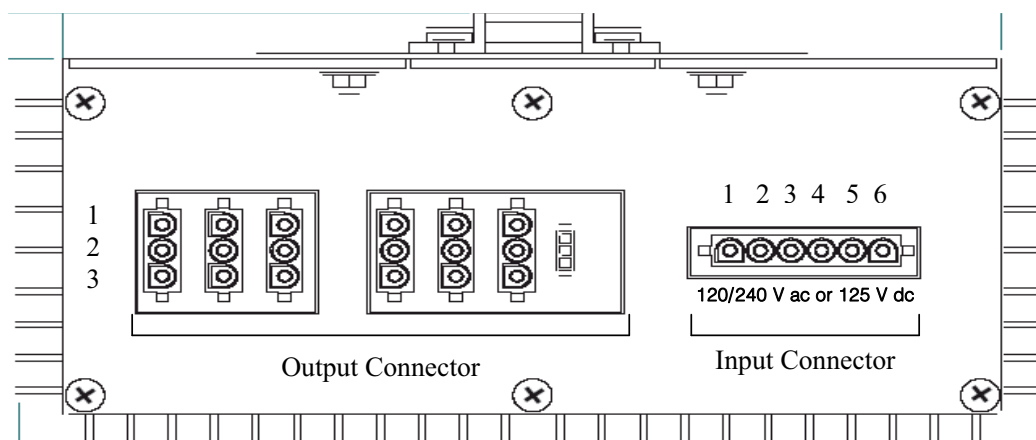
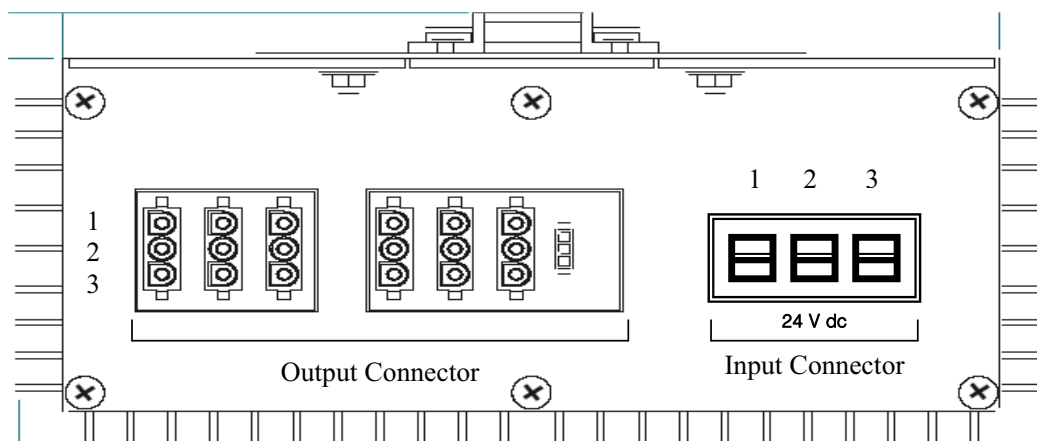

Figure 3-9. Input and Output Power Connector from FPS400-24 to Baseplate Connector for Version P0922YU
Figure 3-10. Input and Output Power Connector from FPS400-24 to Baseplate Connector for Version P0922YC
2. Connect the factory mains input connector to the power supply using the connection points shown in Figure 3-9, Figure 3-9, Table 3-1 and Table 3-2.
Power supply cables for connecting to the Foxboro power supply require a Mate-N-Lock plug. Connect the Foxboro power supply output connector(s) as shown in Figure 3-9, Figure 3-10, Table 3-1 and Table 3-2.